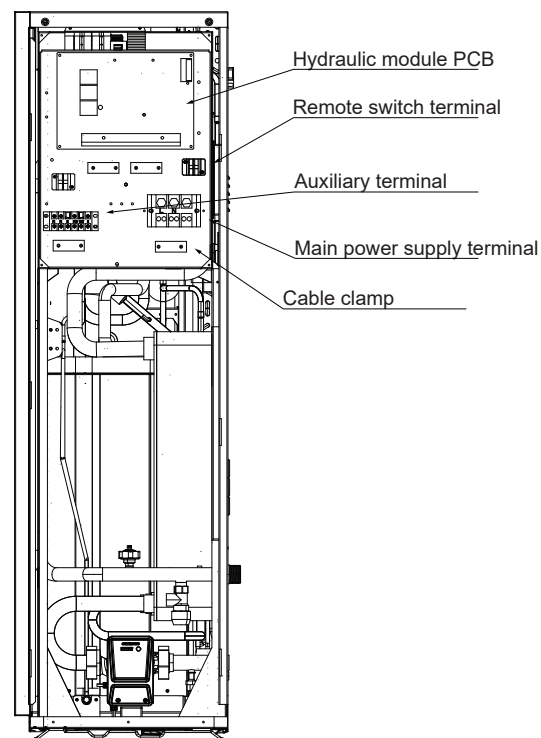

Figure 6-2: Side view for Mains and Hydraulic PCB connection
1. Remove the side panel of the R290 heat pump (left side panel when viewing from the rear) and the Hydraulic PCB module panel. Refer to Figure 6-2.